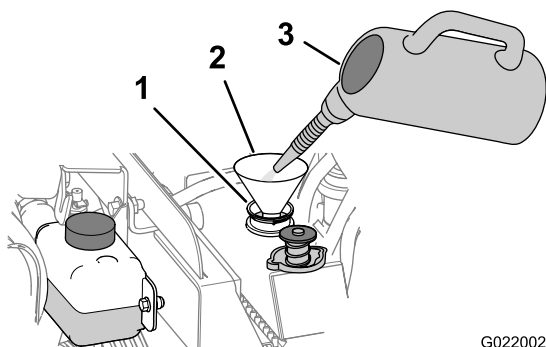

Figure 139
- B. Add a cooling system cleaning solution to the radiator through the filler neck (Figure 139).